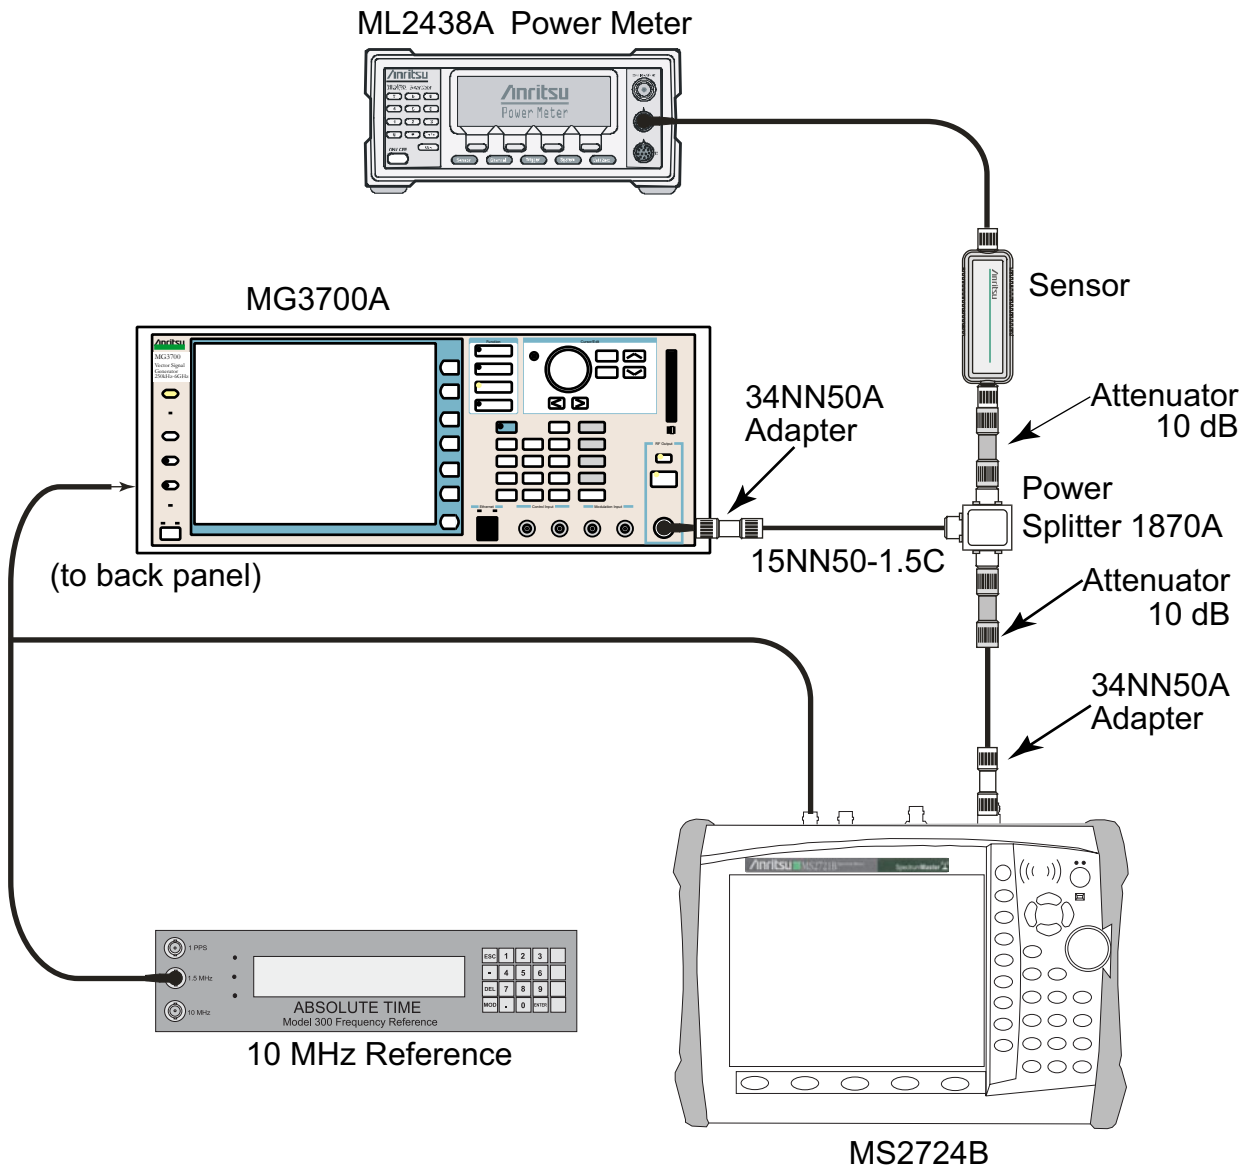

Figure 2-28. LTE Signal Analyzer Option Verification
4. Connect all of the test equipment as shown in Figure 2-28.